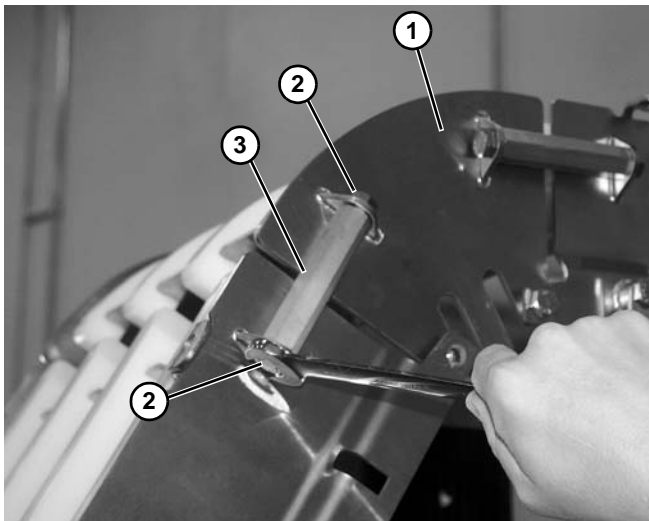

Figure 7
1. Attach upper knuckle (Figure 7, item 1) to frame using two screws (Figure 7, item 2) and a connector (Figure 7, item 3) on each side of the upper knuckle assembly.